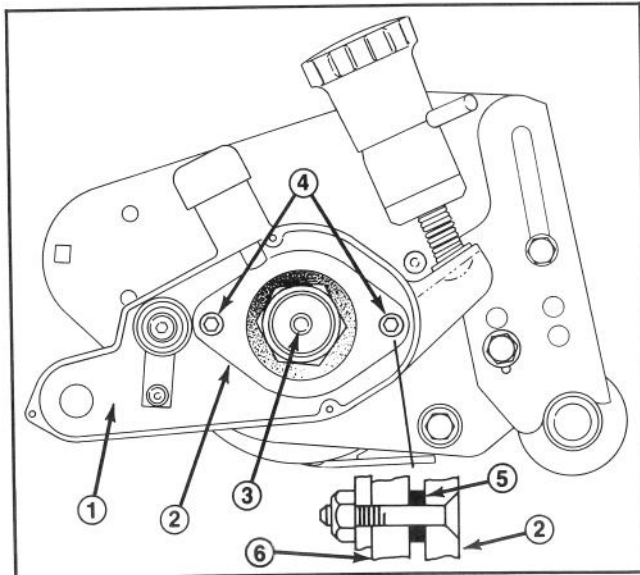

Figure 8
- D. Install flathead screws (3/8-16 x 1-3/4") through bearing adapter and position spacers on the ends of the screws. Align bearing adapter and spacers with bronze bearing and slots in groomer belt housing. Mount belt housing assembly to cutting unit bearing housing and torque flathead screws to 17-21 ft-lb. Assemble locknuts to the flathead screws and torque to 23-27 ft-lb (Fig. 8).